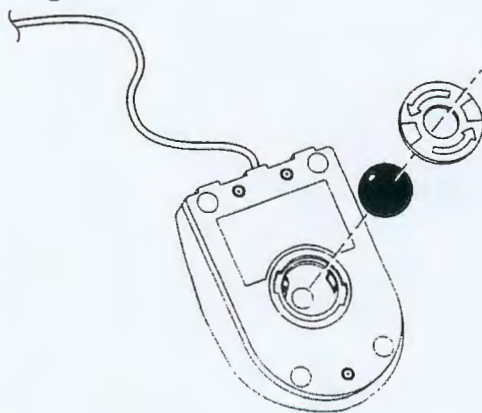

Figure 3 Removing the Mouse Ball
2. **Remove the ball housing cover by turning it counterclockwise. See Figure 3.**